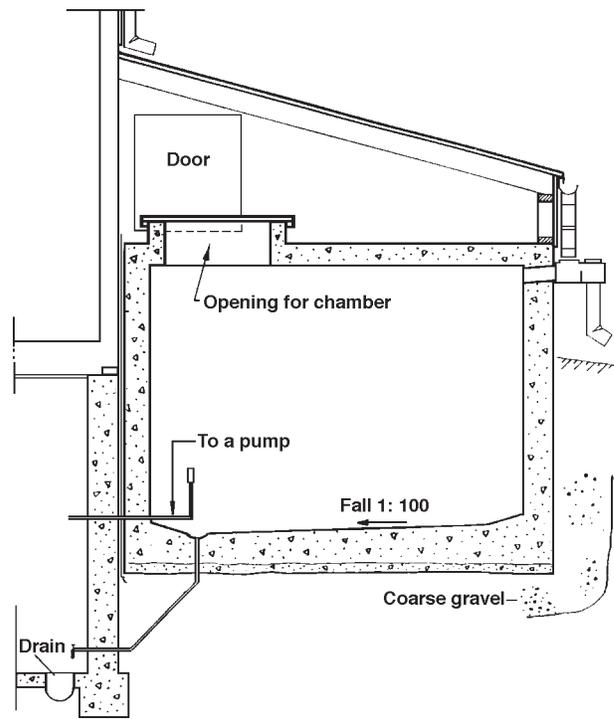

Figure 232
**232** A tank with crawl space over the concrete deck is shown in figure 232. The roof water is directed from the downspouts over the tank's inclined roof to the intake box. Between the container and the wooden walls of the house, there must be a water-tight barrier made of roof tar paper with the joints glued together (Figure 232). Ensure good drainage under and around the container so that contaminated or polluted water cannot penetrate. The terrain must always slope away from the container to ensure drainage.